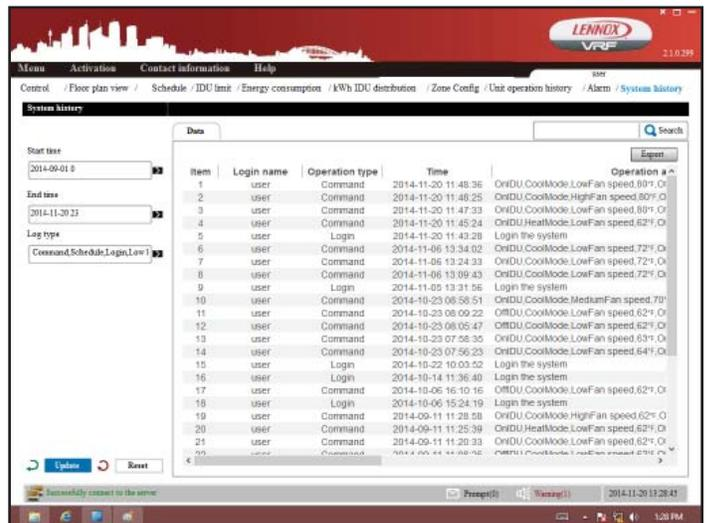

Figure 70. Report Shown
13. The operation report displays. See figure 70.